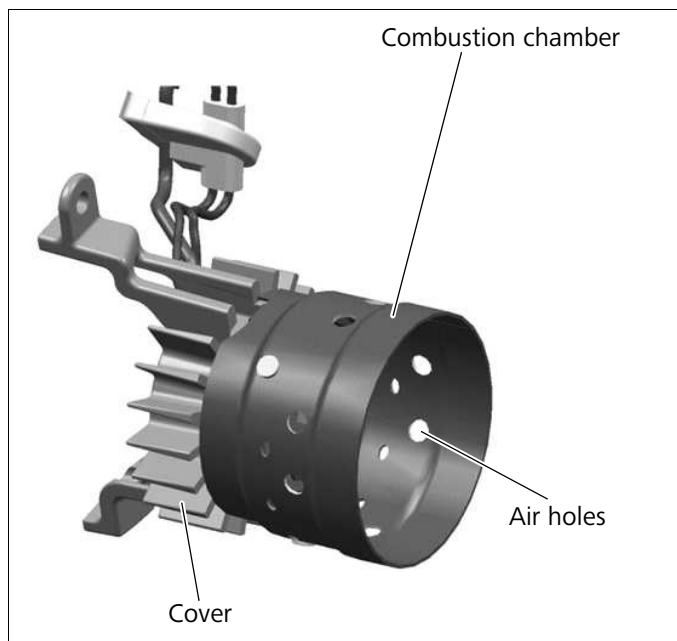

Fig. 702 Combustion chamber
- The cover and the combustion chamber (Fig. 702) must be firmly secured and have no play (check by lightly moving). The burner unit must otherwise be replaced.
The combustion chamber (Fig. 702) should not be damaged (e.g. dented). A dented combustion chamber can cause poor combustion or coking of the heater. The burner unit should be replaced in this case.
- The air holes (Fig. 702) in the burner unit should not be clogged. Clogged air holes can result in the burner not starting or poor combustion.